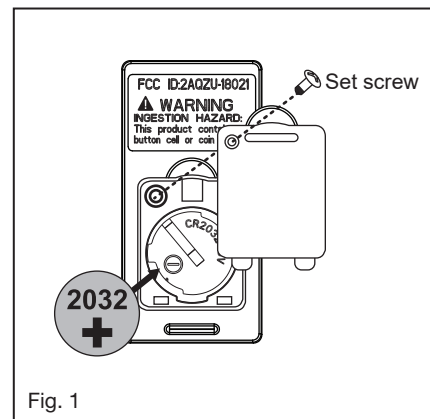

Fig. 1
- 2 **Motor to Receiver Electrical Connections:** (Fig. 1) Connect the black wire from the fan to the black wire marked "TO MOTOR L" on the receiver. Connect the white wire from the fan to the white wire marked "TO MOTOR N" on the receiver. Connect the blue wire from the fan to the blue wire marked "FOR LIGHT" on the receiver. Secure all the wire connections with the plastic wire nuts provided.
- 1 Attach the blades and blade arms using the three blade attachment screws. Insert a blade attachment screws into the blade arm, but do not tighten. Repeat for the two remaining screws. (Fig. 1)
- 1 Remove one of the three screws on the mounting hub located on the fan motor. Loosen the other 2 screws. (Do not remove) (Fig. 1)
- 1 Select a desired location. Use the wall plate to mark the location of the mounting holes. Plastic wall anchors or mounting screws are needed for this application. (Fig. 1)
Remove the panel from the transmitter and then install one 2032 battery (included). You need to use a screwdriver to open or close the battery cover. To prevent damage to transmitter, remove the battery if not use for long periods of time (Fig. 1)